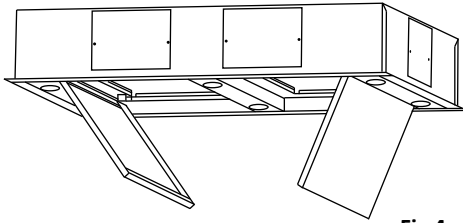

Fig 4
1. Open the 2 panels to reveal the grease filters (**Fig 4**).